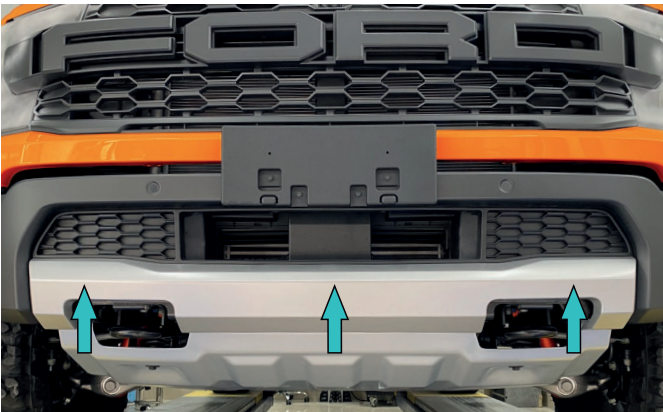

Fig.3
3. Remove the plastic cover (fig.3). The plastic cover attached to plastic clips.